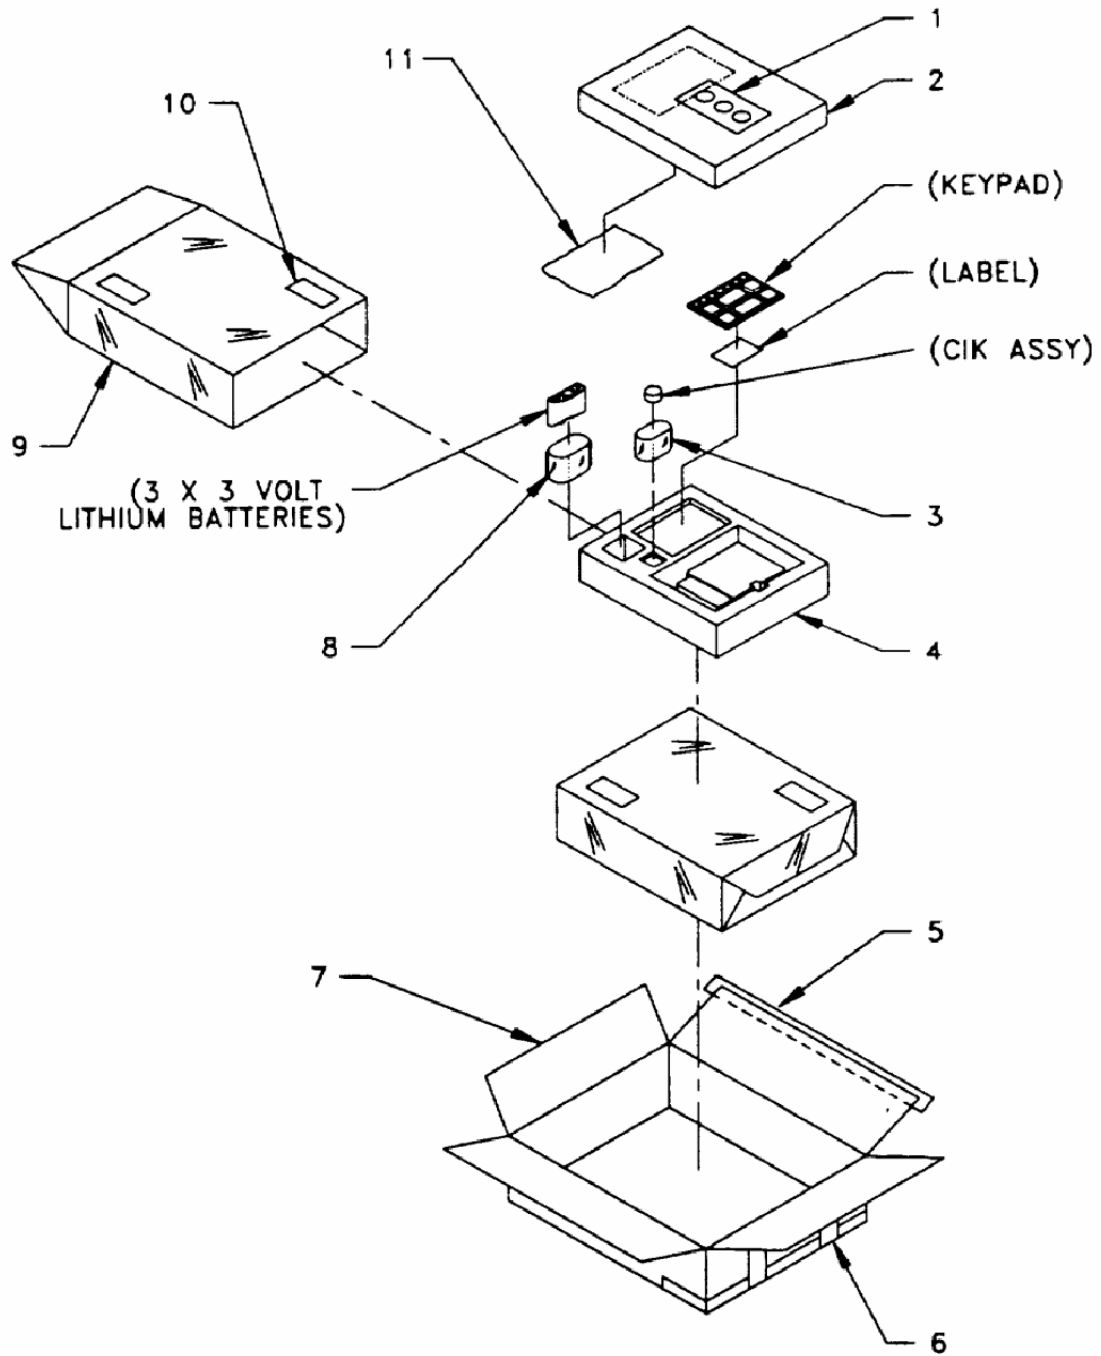

Figure 2-4. ANCD Packaging
- b. Unpack the ANCD unit while following the packing method illustration and list of materials, see Figure 2-4. Do not damage the packing materials; they should be stored in the carton in case the ANCD will be stored or shipped at a later date.